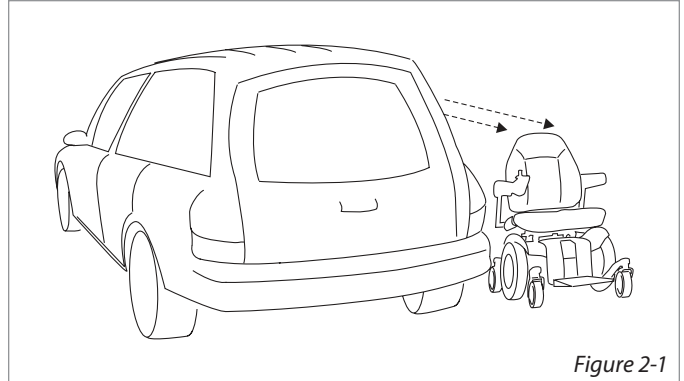

Figure 2-1
1. **Park power chair or scooter ready to be picked-up** along the side and parallel to the vehicle. [Figure 2-1]